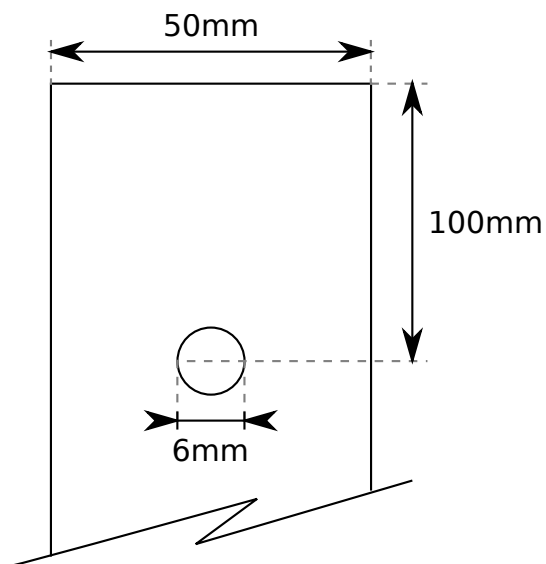

Figure 7: Infrared mounting hole position.
- 3.4.2 The pole must be constructed from $25 \times 50mm$ pine, and must have a $6mm$ diameter hole in it at the position indicated in figure 7. This hole is for mounting the infrared system during games.